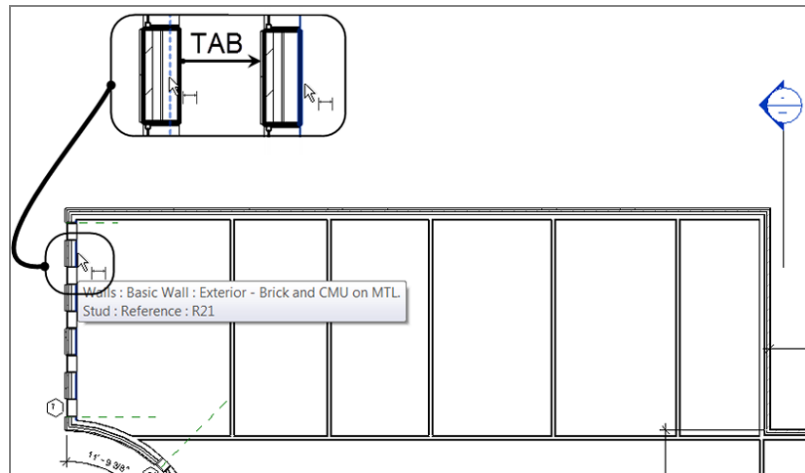

FIGURE 5.27: Press the Tab key to filter to the desired reference of the wall.
7. Zoom in on the left exterior wall, as shown in Figure 5.27.
8. Hover your pointer over the wall. Do you notice that Revit is trying to locate the center of the wall? In this instance, you don't want this (even though you just told Revit to do that). You want Revit to start this dimension string by using the interior face of the finished wall. To do this, hover your pointer over the inside face of the wall (see Figure 5.27).